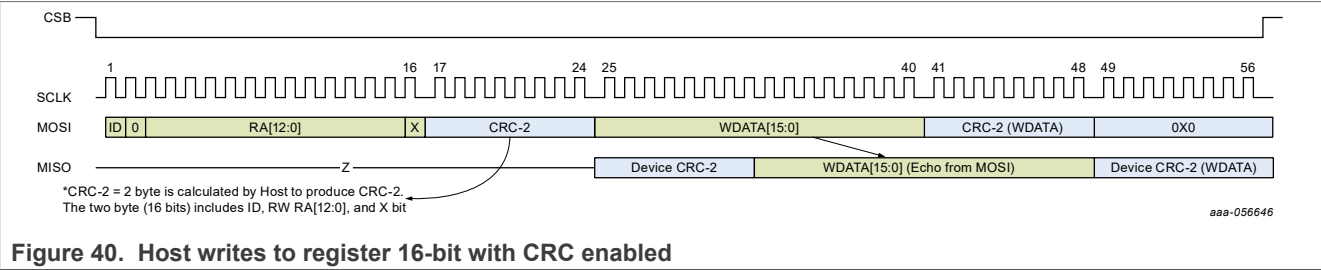
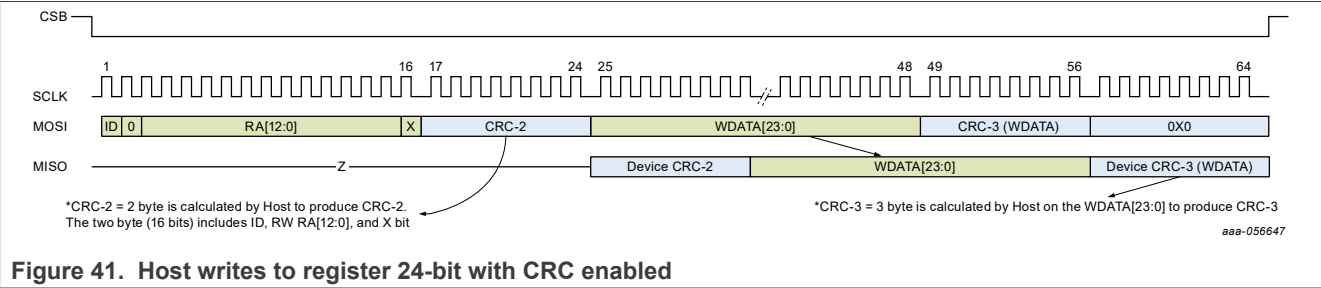

Figure 40. Host writes to register 16-bit with CRC enabled
Figure 41. Host writes to register 24-bit with CRC enabled
Figure 40 and Figure 41 show host writes 16-bit and 24-bit internal register respectively. There are two CRC bytes sent from a host named CRC-2. The first CRC byte is calculated by the host from the first 16-bit data word. This data word includes device ID bit, RWL bit, RA bits, and don't care bit (0). The second CRC byte is calculated from the 16-bit WDATA[15:0] or WDATA[23:0] if the host writes to the 16-bit register or 24-bit register, respectively. There is always an extra empty byte (eight extra SCLKs) the host must send after the second CRC byte. The device needs extra clocks to check/verify with the on-chip CRC logic if the data sent by the host is not corrupted. After the CRC byte is received and a match is found with the device-calculated CRC, then the register update will take place. The controller can decide to drive an extra seven more clock cycles to receive